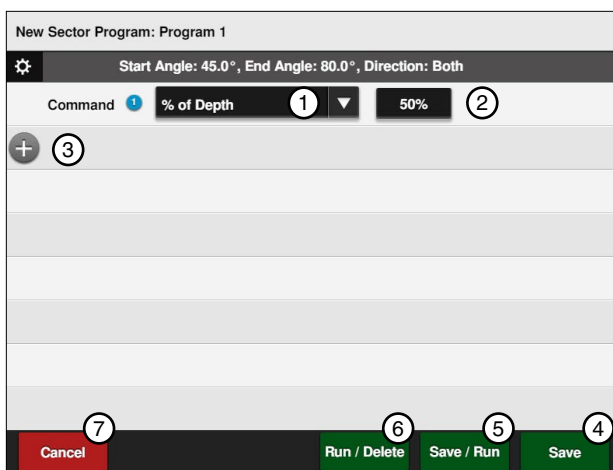

Figure 150-1 1. % of Depth Command 5. Save & Run
- Select the **Choose Command** drop-down menu and choose **% of Depth**. Refer to Figure 150-1.
12. Finish the program by selecting one of the following. Refer to Figure 150-1.